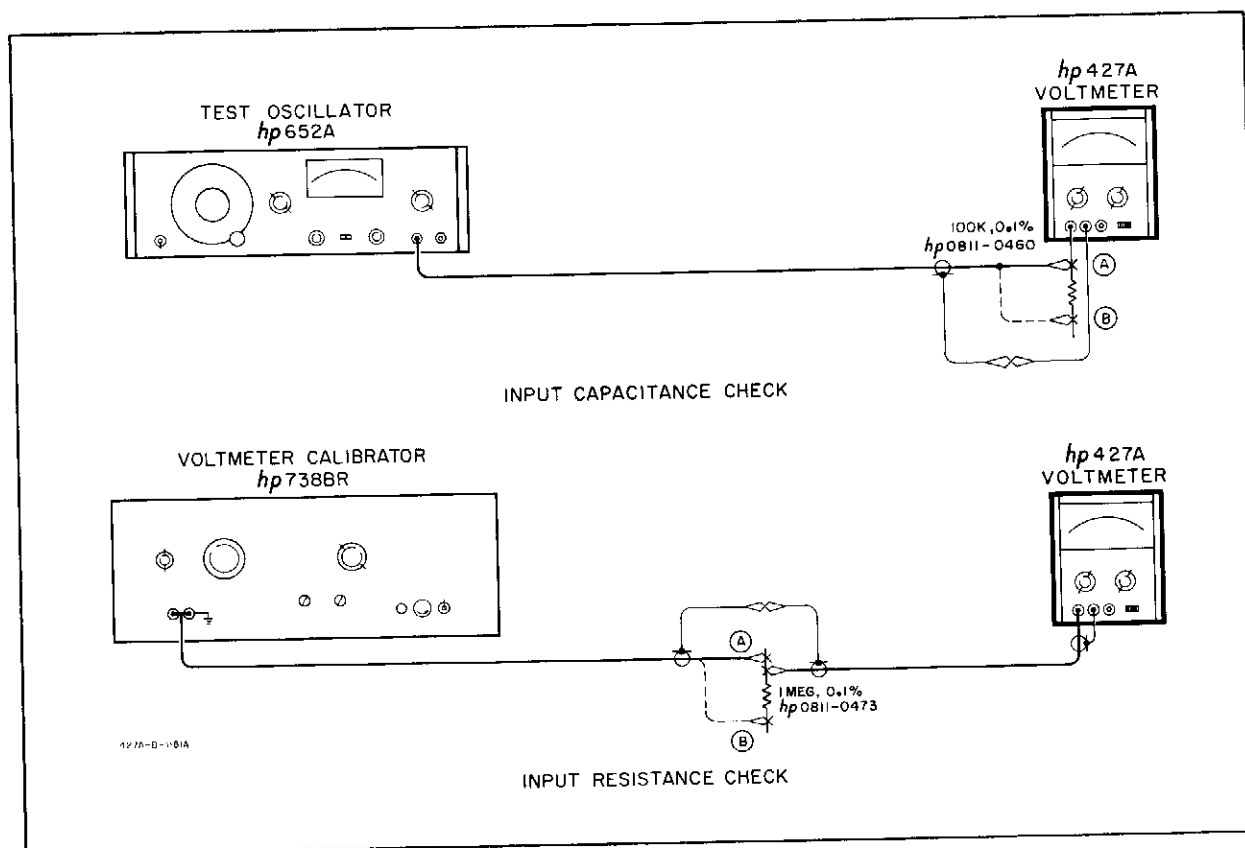

Figure 5-5. Input Impedance Check
5-22. Figure 5-5 shows the setup for the input resistance check. A 1 M $\Omega$  resistor is connected in series with the input, and the voltage drop across the input resistance will be:
- a. Connect the Model 427A and the voltmeter calibrator to position A illustrated in Figure 5-5. Set the Model 427A FUNCTION to +DCV and RANGE to 1 V.
- c. Connect the voltmeter calibrator to position B shown in Figure 5-5.
- Connect oscillator and Model 427A to position A of the input capacitance check (Figure 5-5), and set the Model 427A FUNCTION to ACV and RANGE to 1 V.